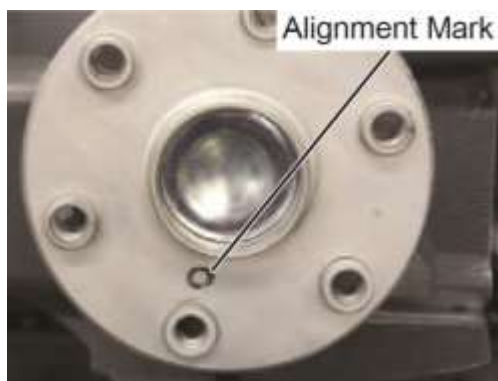

Figure 50
- (1) Install the alternator belts in the pulley of the starter ring gear support.
- (2) Assemble the ring gear support over the propeller flange bushings.
- (3) Locate the starter ring gear so that the "0" on the ring gear support aligns with the "0" on the crankshaft flange.
- (4) Align the mark on the crankshaft flange (Figure 50) with the mark on the starter ring gear assembly (Figure 51). Install the starter ring gear on the crankshaft flange.
- (5) Adjust the alternator belt tension. Refer to the "Alternator Belt Tension Adjustment" procedure for the respective alternator in this chapter.